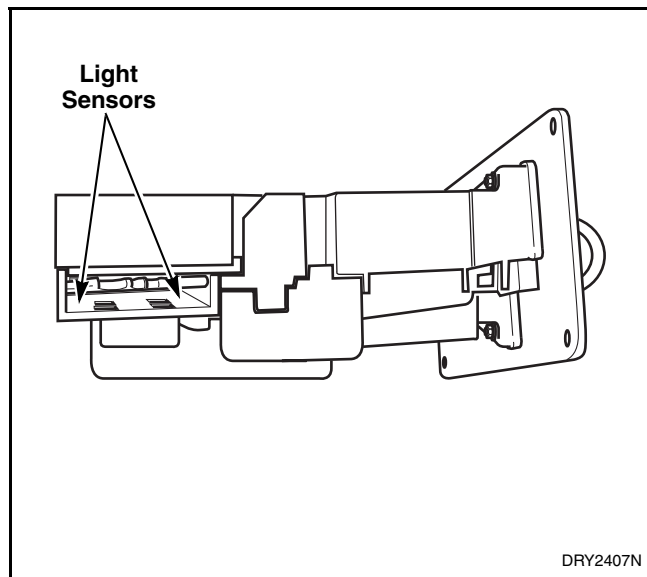

Figure 92
- f. Clean light sensors with a soft brush or air spray duster. Refer to *Figure 92*.